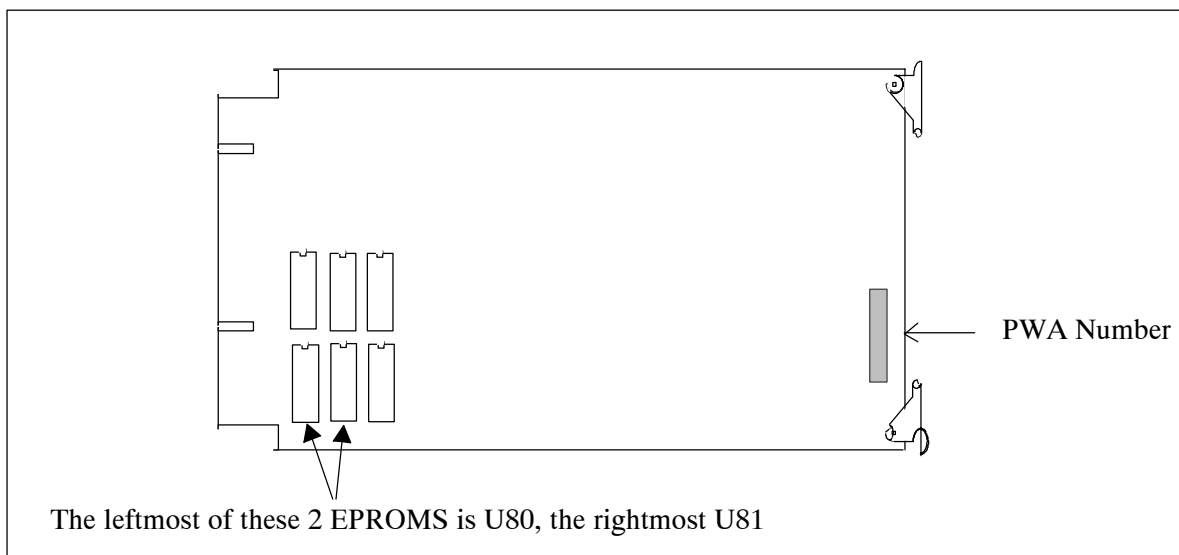

Figure 4.1. 68020 IO Processor Board
2. Verify that the board is PWA 1984-1540-0009. (See Figure 4.1)
5. Prepare the new components for installation. One of the EPROM chips is labeled with a "1" and the other with a "0". The chip labeled with the "1" will go into location U80, and the chip labeled "0" will go into location U81. (See Figure 4.1)